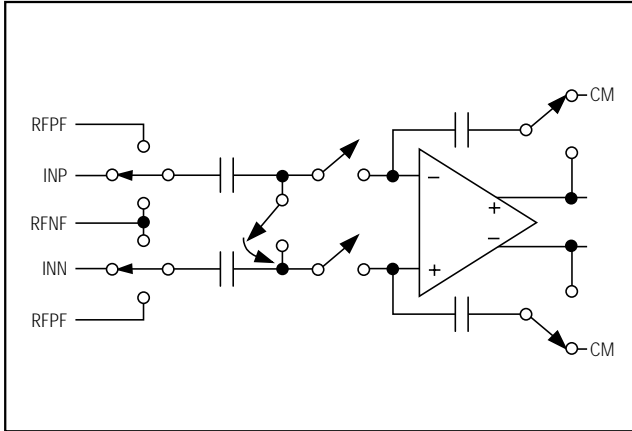

Figure 2. Simplified MDAC Architecture
Fully differential switched-capacitor circuits (SC) are used for both the reference and analog inputs (Figure 2). This allows either single-ended or differential signals to be used in the reference and/or analog signal paths. The signal voltage on these pins (INP, INN, RFP_, RFN_) should never exceed the analog supply rail, AV_{DD} , nor fall below ground.